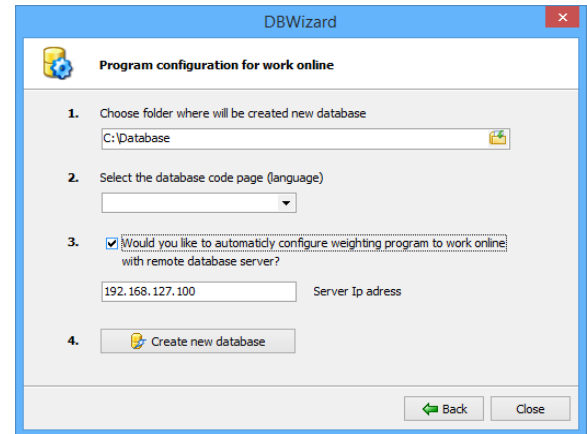

Fig. 20 Creating a new empty database
4. On the second tab of the program, select the location (folder), in which the "empty database" will be created (Fig. 20). For instruction purposes, it'll be "C:\Database"